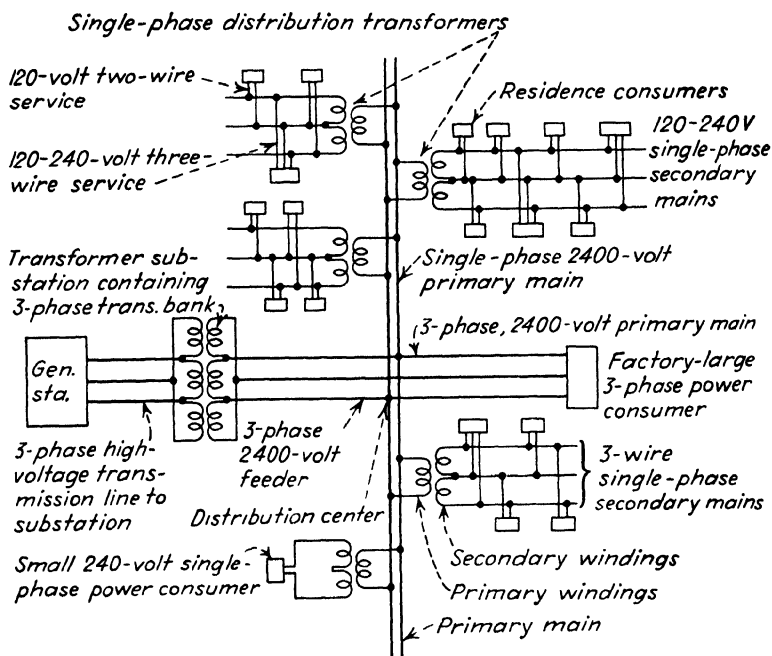

FIG. 2-27. Diagram showing various circuits and parts of an alternating-current electric system.
**Summary.** Figure 2-27 illustrates the various component parts and circuits heretofore described. It also shows the relation each circuit has to other circuits in the system. Beginning at the central generating station is the high-voltage transmission line which transmits the electrical energy to the transformer substation. This transmission line is usually of considerable length and may stretch over miles of country. It is always a very high-voltage overhead line. However, if the generating station is located in the city, then the lines connecting the central station with the several substations are usually medium-voltage underground cable lines. There are then usually a number of lines radiating out in every direction to the numerous substations located in various parts of the city. From each substation extend the three-phase